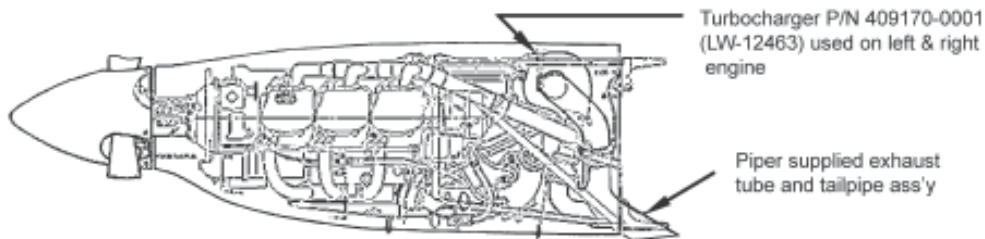

Figure 1 - Turbocharger Installation
1. Access the aircraft turbocharger by removing the engine cowling as required in accordance with instructions contained in the Piper Aircraft maintenance manual. Refer to Figure 1.